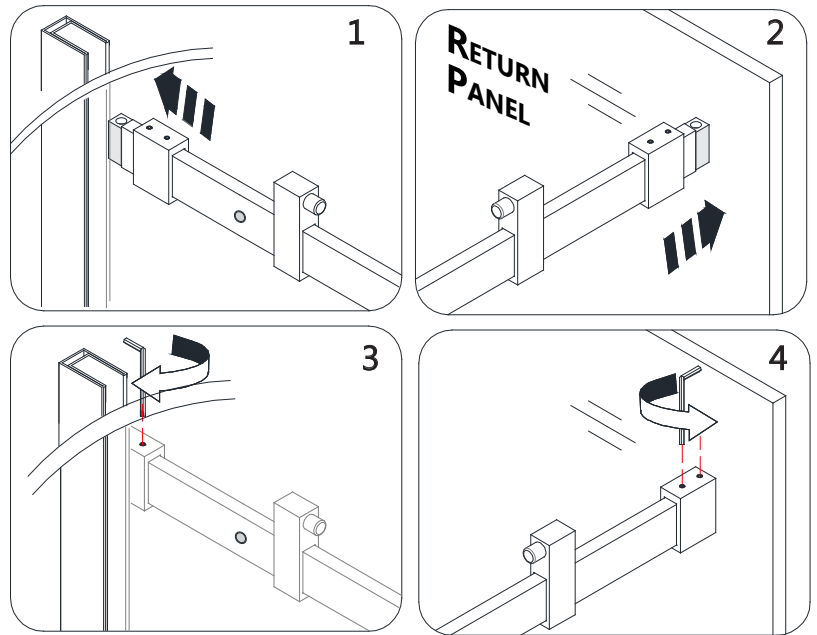

Fig 25
25. Align the panel side **Guide Rail (#04)** end with the installed **Guide Rail Wall Bracket (#6b)**. Slide the **Guide Rail Bracket (#6a)** over the **Guide Rail Wall Bracket (#6b)** and tighten the set screws. (Fig 25)